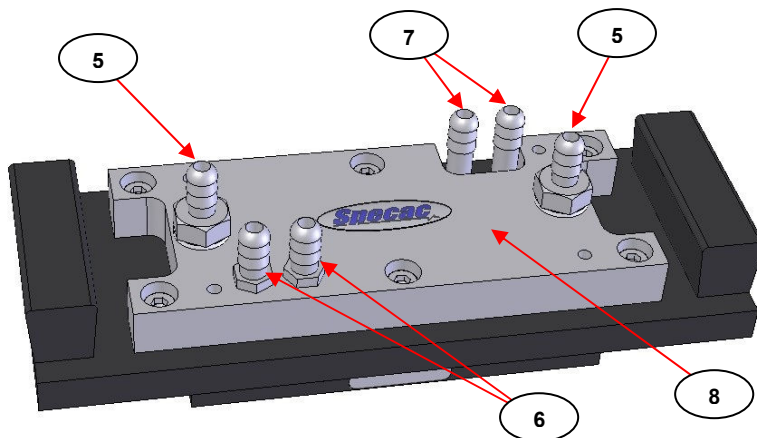

Fig 4. Liquid Sample and Thermocirculating Connection Ports on Gateway™ ATR Thermostabilised Flow Through Top Plate
The clear silicone flow tubing supplied with the Gateway™ ATR Flow Through Top Plate is connected to the sample flow ports (5) on the upper thermocirculating plate (8). (See **Fig 4**). It does not matter which of the flow ports (5) is the **inlet** or **outlet** connection for flow. The clear silicone tubing supplied has dimensions of 1/4" O.D. and 1/8" I.D. and is pushed over the barbed hose type connectors on the flow ports (5).